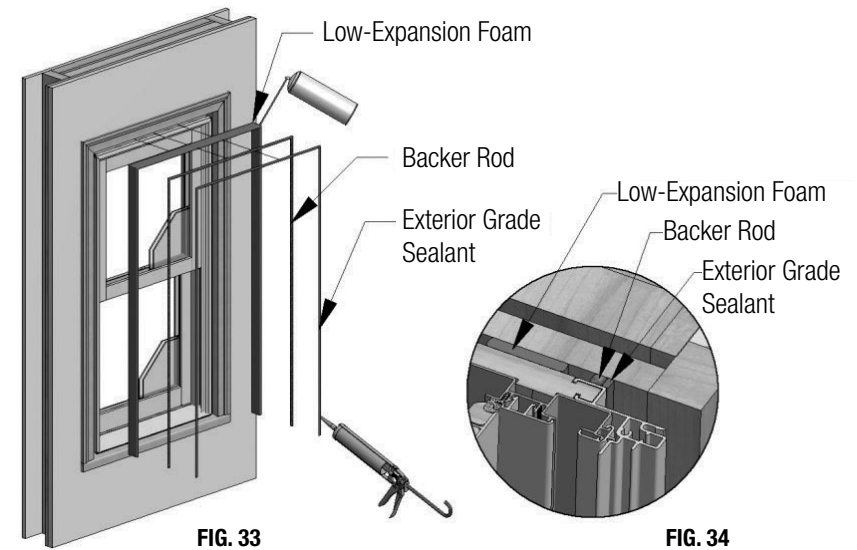

FIG. 33
- D) From the exterior, spray low-expansion foam to both sides and head of window in between existing and replacement windows. (Fig. 33 & 34)
- E) After low-expansion foam has cured, apply backer rod to both sides and head of window between the replacement and existing frame. (Fig. 33 & 34)
- F) Apply exterior grade sealant to both sides and head of window between the replacement and existing frame. (Fig. 33 & 34) **Note: Do not apply sealant to sill.**